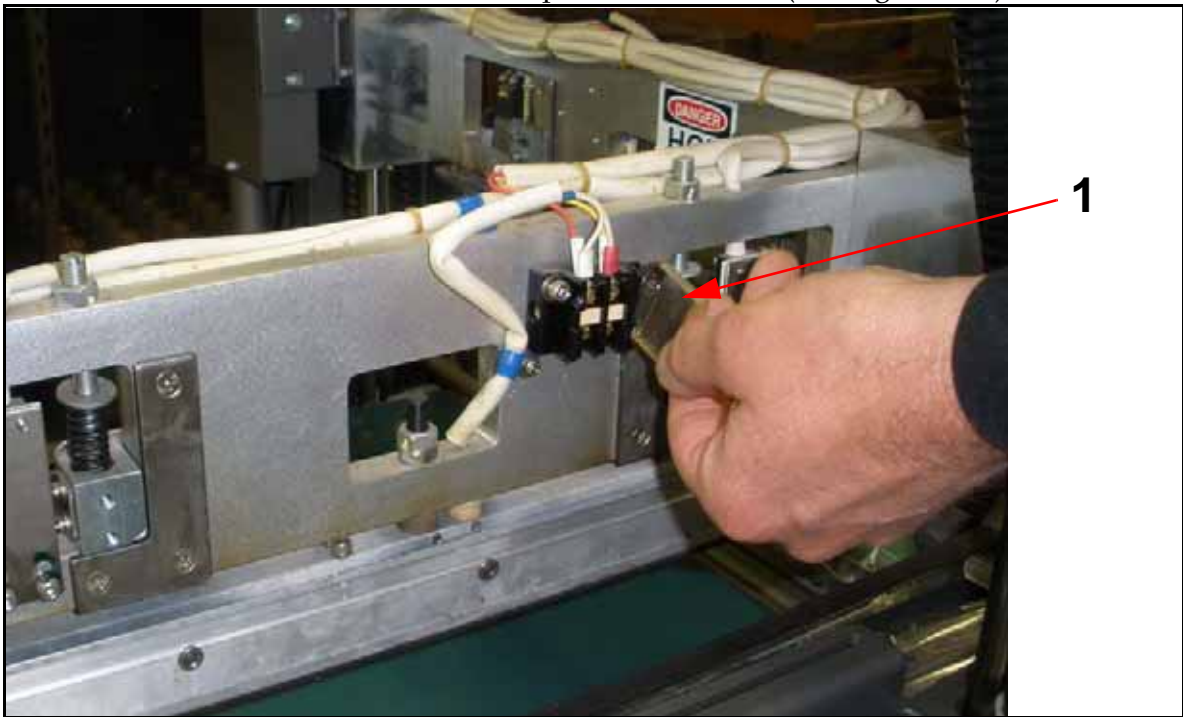

Figure 7-27. Thermocouple Terminal Cover
- 2 Remove thermocouple terminal cover (1 in Figure 7-27).